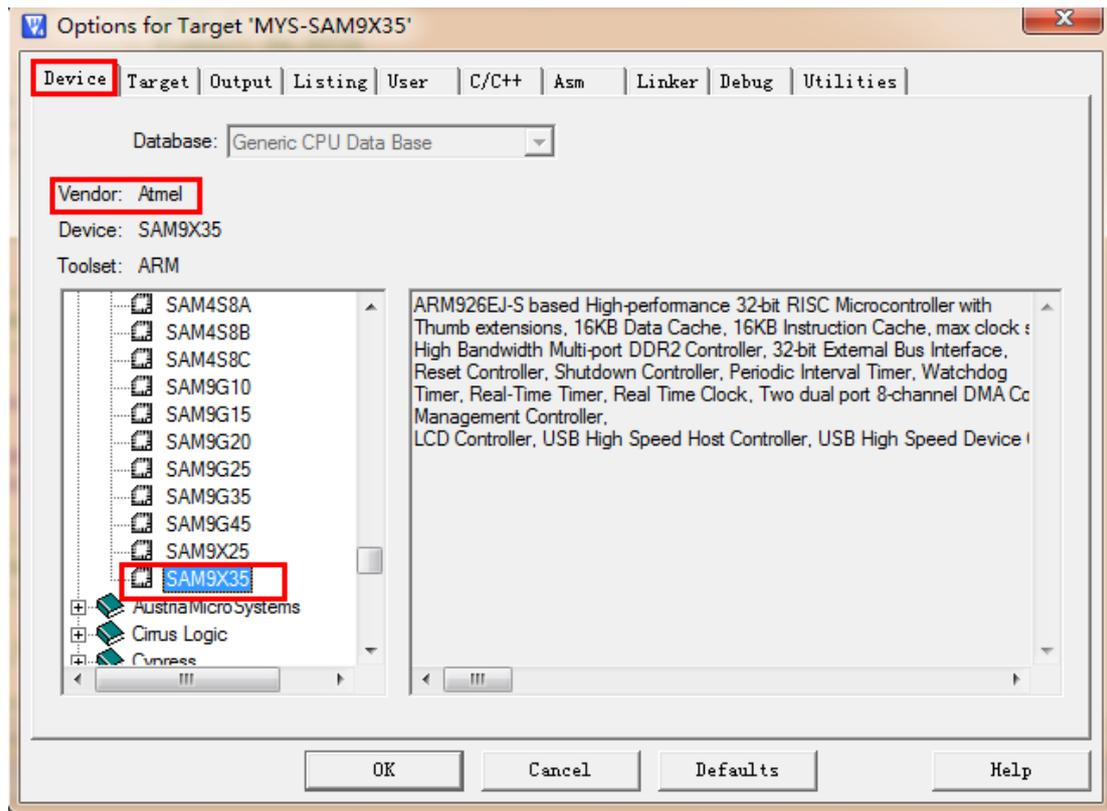

Figure 3-2
- (2) Choose SAM9X35 in Device (Note: The modes are similar to SAM9X35). Steps are shown in figure 3-2: